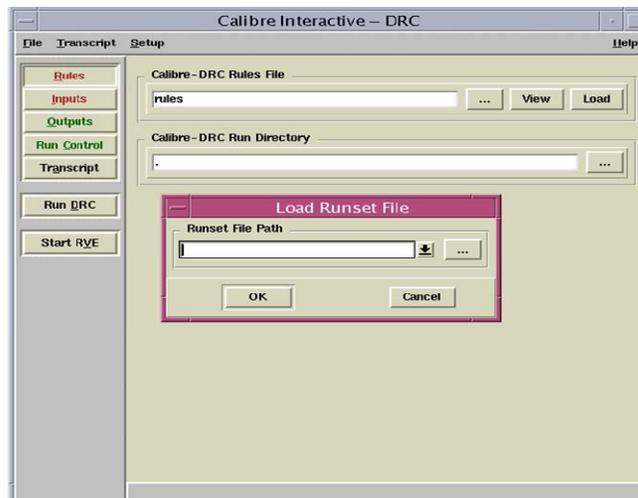
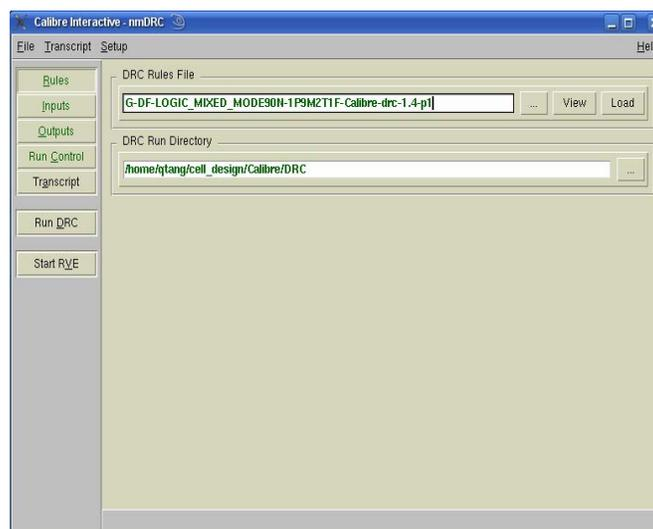

Fig 9. Calibre Interactive – nmDRC window
Fig 10. Specifying the DRC rule file and run directory
1. Open your layout window, and select **Calibre**→**Run DRC** to invoke the **Calibre Interactive – nmDRC** window (Fig 9). If this is the first time for you to run DRC, click **Cancel** at **Load Runset File** (if you saved a runset file before and you want to load it, specify the runset file here). Specify DRC Rule File and DRC Run Directory as it is shown in Fig 10. The DRC Rule File can be found in the local **Calibre/DRC** directory. The rule file name is: